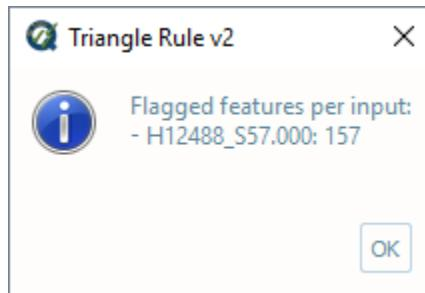

Fig. 2.65: Triangle rule's output message.
- After executing, the output window opens automatically, and the results are shown by textbox (Fig. 2.65).